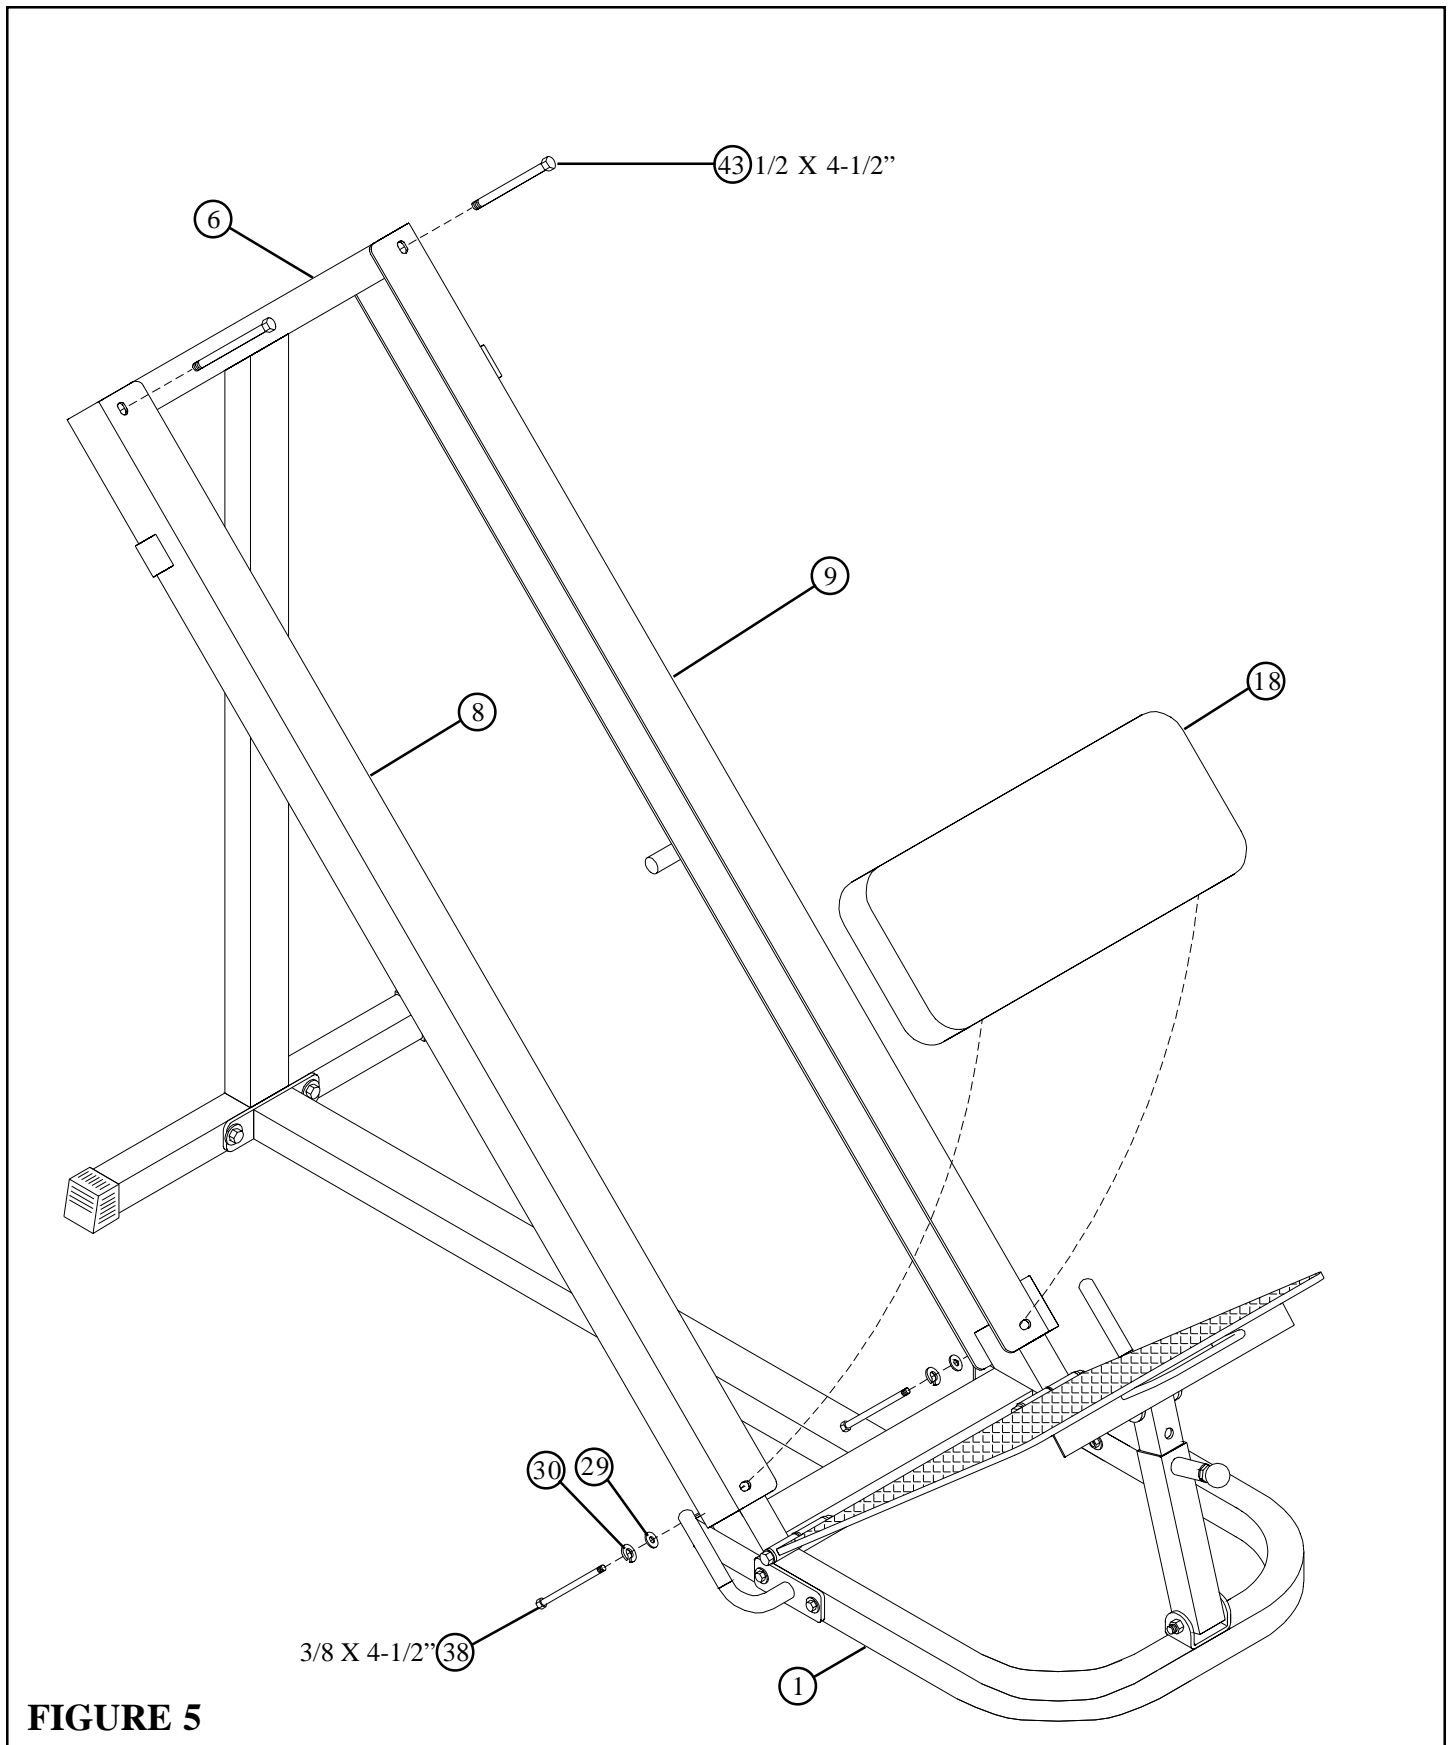

FIGURE 5
- **LOOSELY** assemble the LEFT (8) and RIGHT RAILS (9), along with the SEAT PAD (18) to the BASE (1) as shown in FIGURE 5 using two 3/8 X 4-1/2" BOLTS (38), two 3/8" LOCK WASHERS (30), and two 3/8" WASHERS (29). Temporarily assemble the RAILS to the REAR UPRIGHT (6) using two 1/2 X 4-1/2" BOLTS (43) to aid in the assembly of this step.